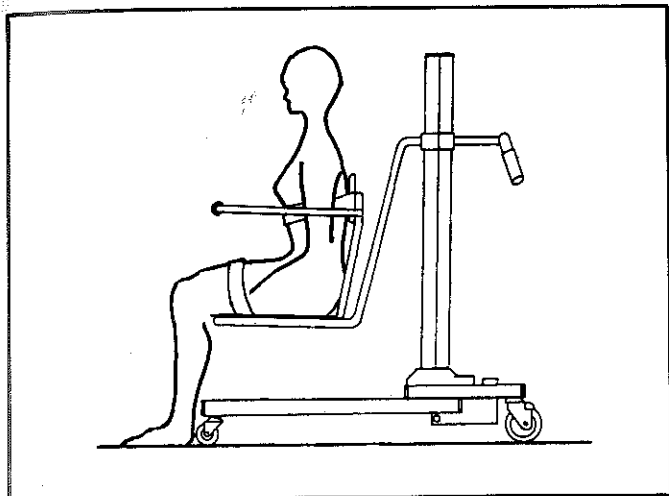

Figure 3-11
- B. Lower the lift to chair height for easy patient access, approximately 18" from the ground, Figure 3-11.
2. Lower seat to wheelchair seat height. (Depress DN (Down) button of hand switch to lower seat). (See Figure 3-11).